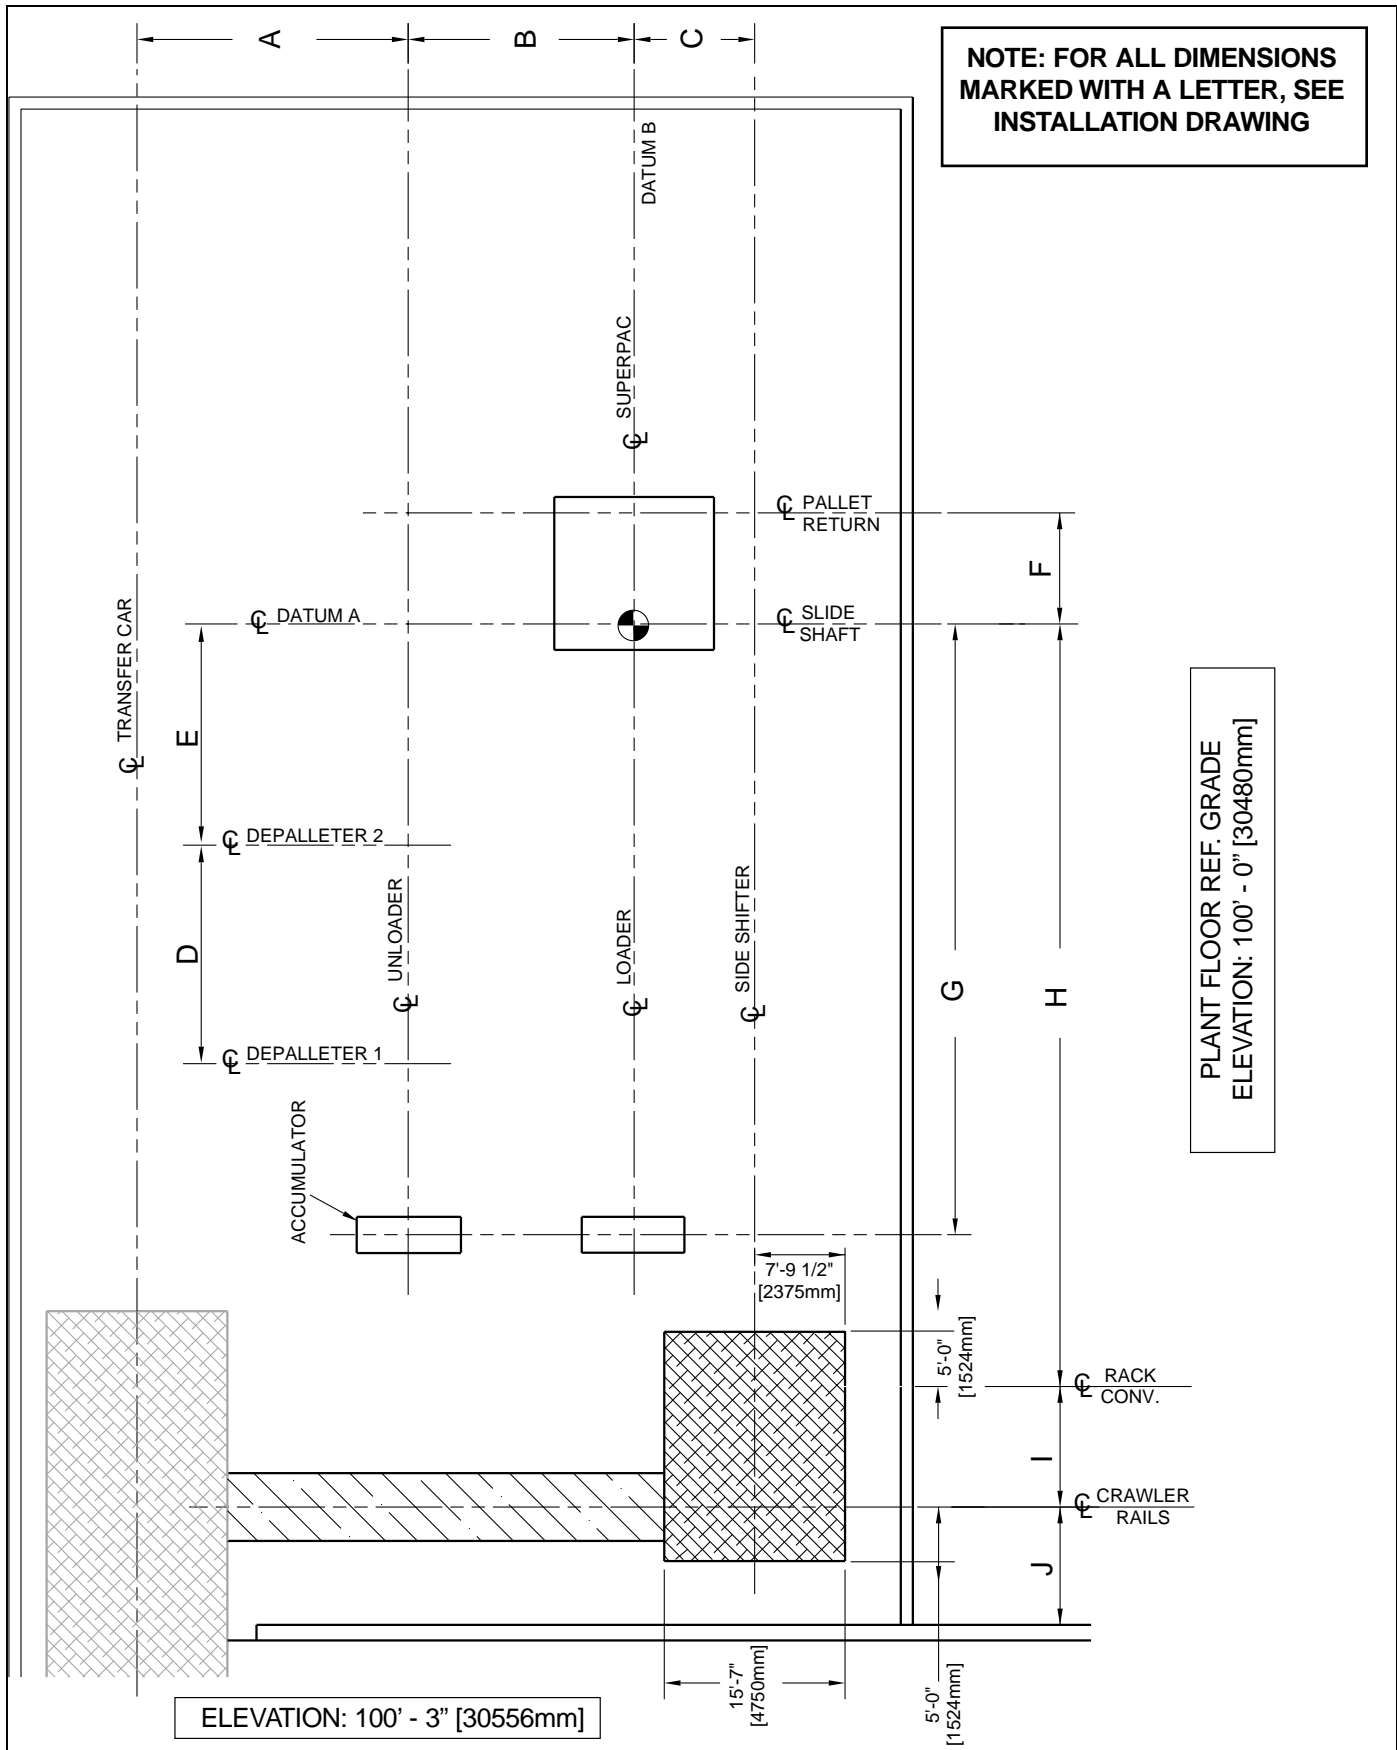
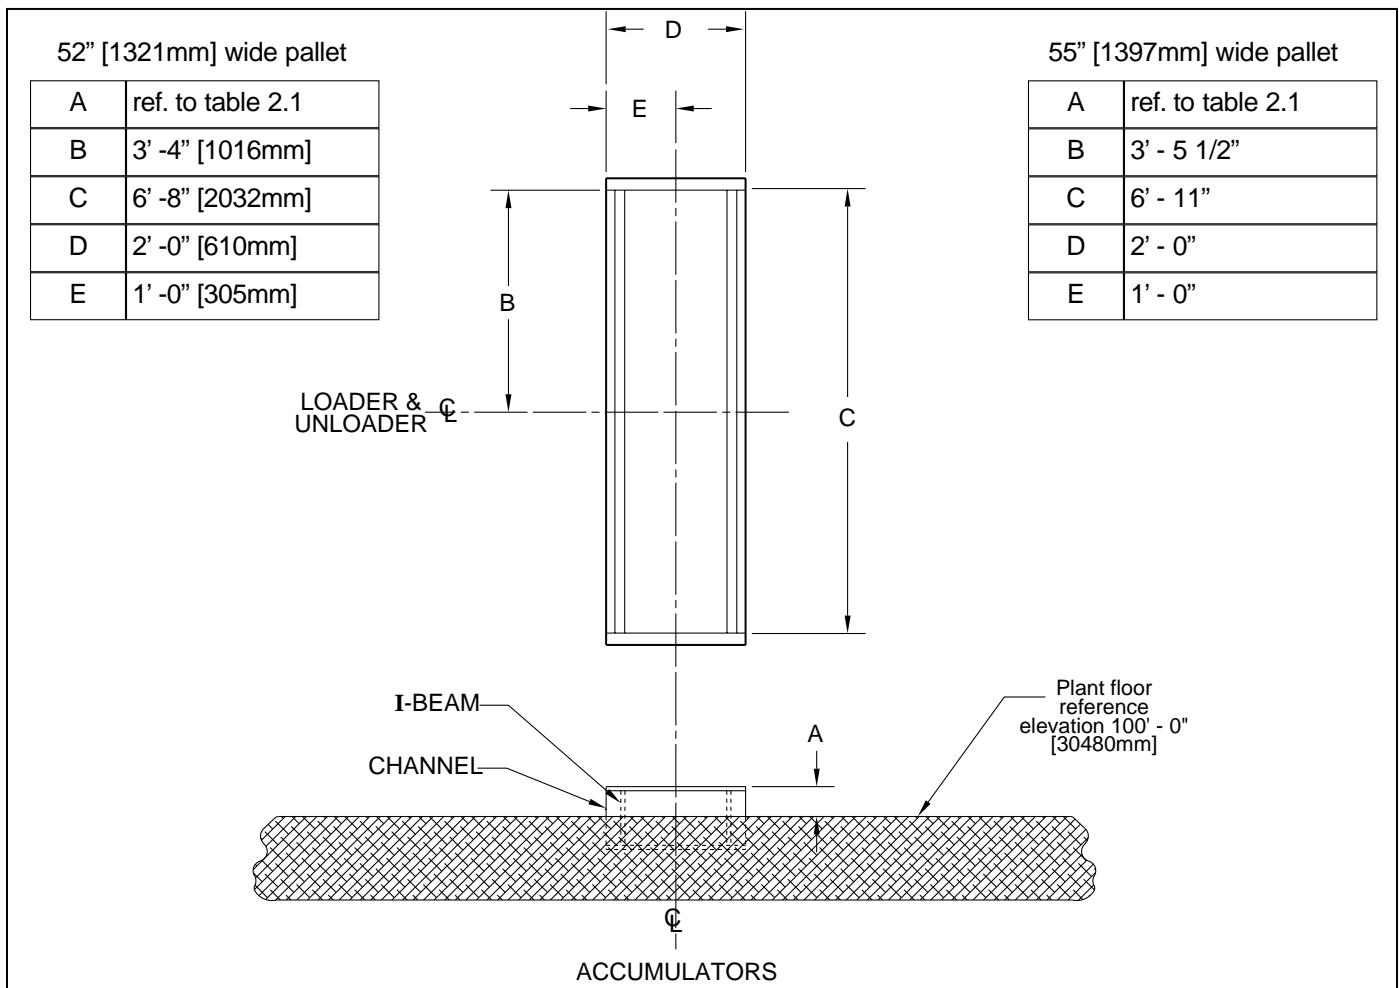

Figure 2.2 MS-12 BESSER-MATIC INSTALLATION (ref. installation print - sheet 1).
Figure 2.3 ACCUMULATOR FRAME ASSEMBLIES.
3. Locate steel frames in the floor as per installation drawing. The MS-12 foundation requires two frame assemblies; one under the Loader Accumulator and one under the Unloader Accumulator. These steel foundations should be made to support 12,000 lbs [5454Kg] each. The Loader Accumulator centerline is the same as the centerline of the FDC. Note that the centerline of the FDC is not the same as the center of the concrete slab. The centerline of the concrete product machine is offset to one side of the foundation (see figure 2.2 in the Ultrapac Installation Manual #F9601). The size of the loader and unloader Accumulator frame assemblies is shown in figure 2.3 and in table 2.4.
4. Once the frame has been welded together, it can be placed in the proper location into the floor at the proper elevation using a transit (refer to figure 2.2).
6. The area where the Side Shifter travels requires a sub-floor at an elevation of 99'-5 1/2" [30315mm]. Refer to figure 2.2 for Side Shifter sub-floor dimensions and location.